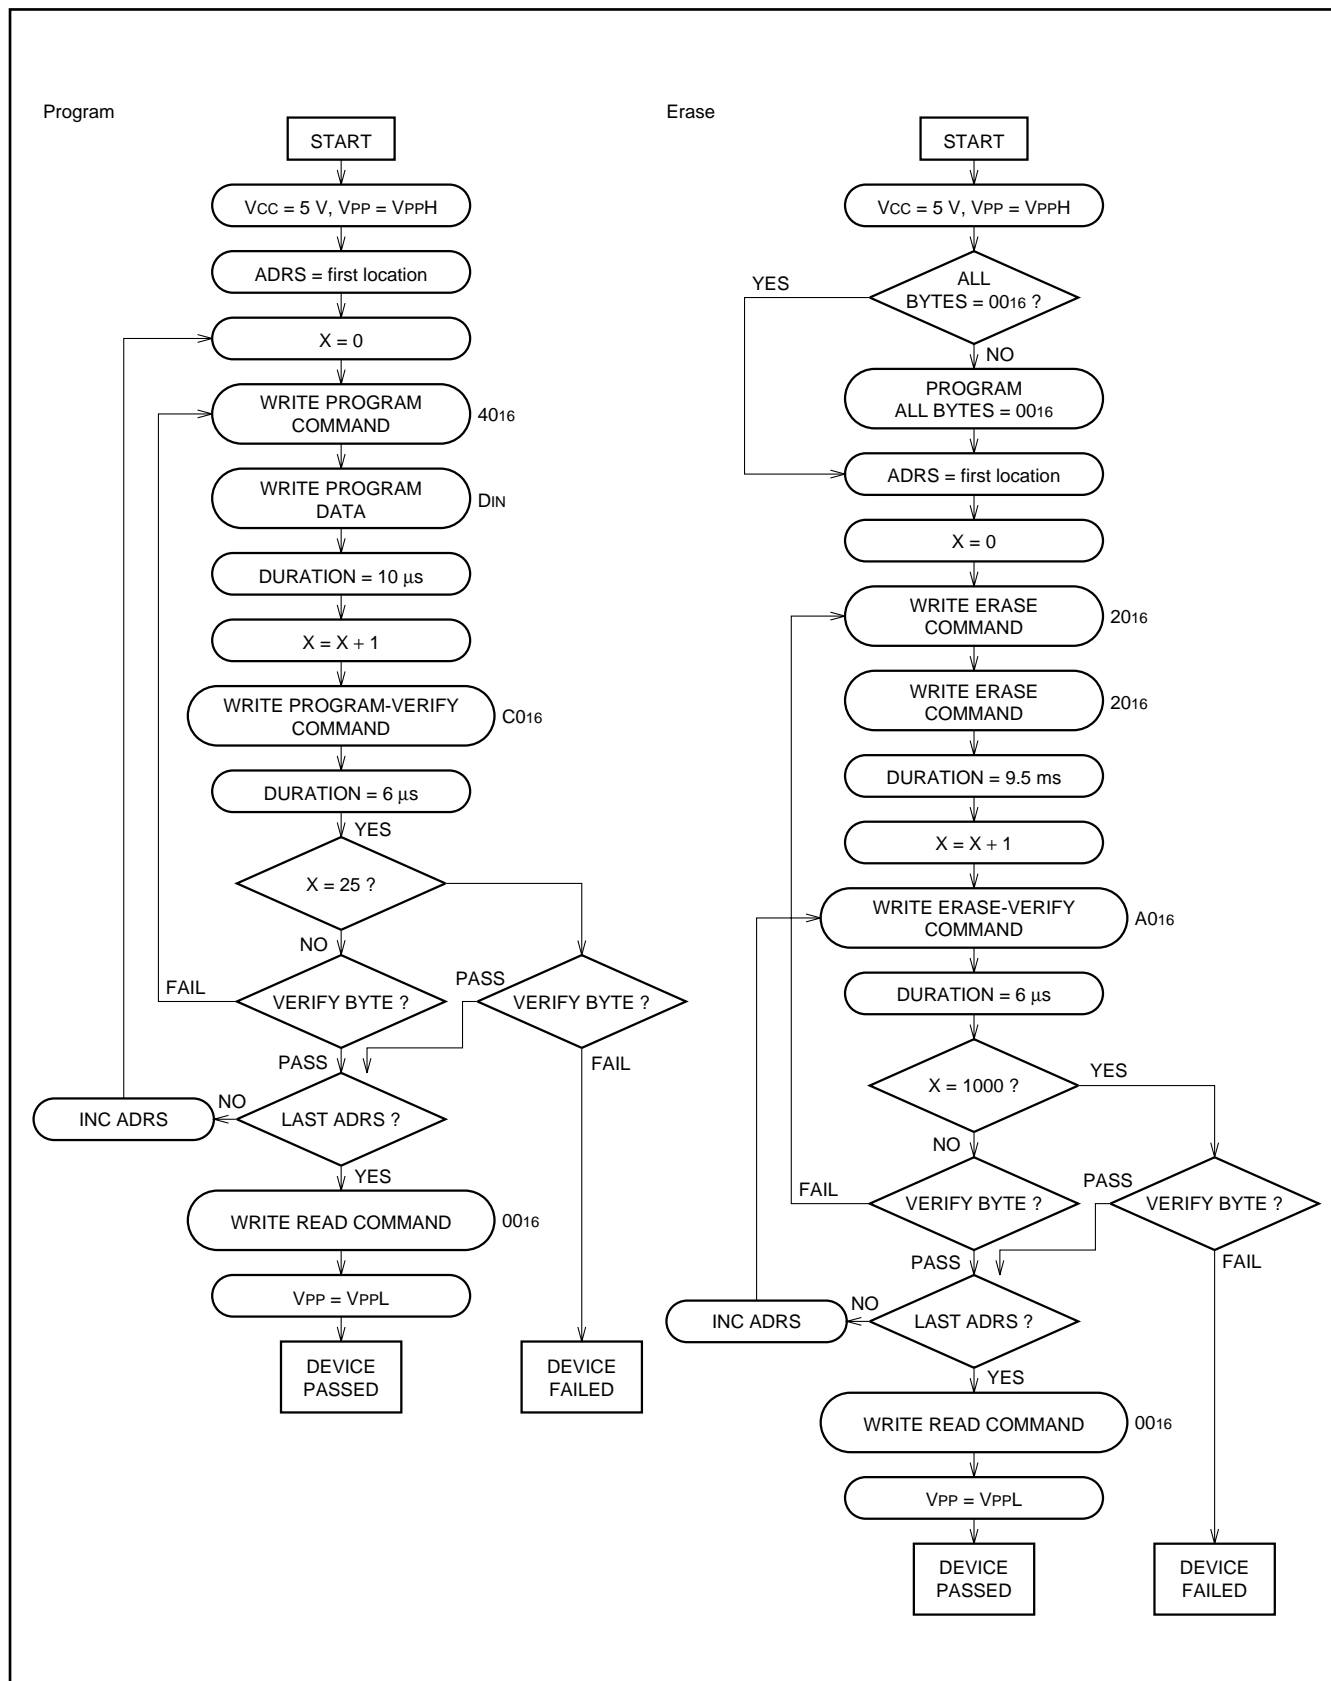

Fig. 90 Programming/Erasing algorithm flow chart
**Note:** A programming operation is not completed by executing the program command once. Always be sure to execute a program verify command after executing the program command. When the failure is found in this verification, the user must repeatedly execute the program command until the pass. Refer to Figure 90 for the programming flowchart.
**Note:** An erase operation is not completed by executing the erase command once. Always be sure to execute an erase verify command after executing the erase command. When the failure is found in this verification, the user must repeatedly execute the erase command until the pass. Refer to Figure 90 for the erase flowchart.